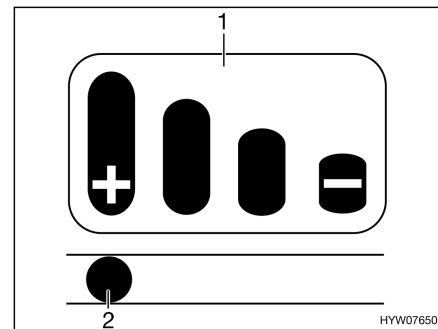

Fig. 100 Wear indicator
A wear indicator (Fig. 100) with a bar diagram (Fig. 100, 1) is attached on the coupling handle.
- When the pin (Fig. 100, 2) is in the longitudinal hole at the marking with the "+", the friction pads are still in good condition.